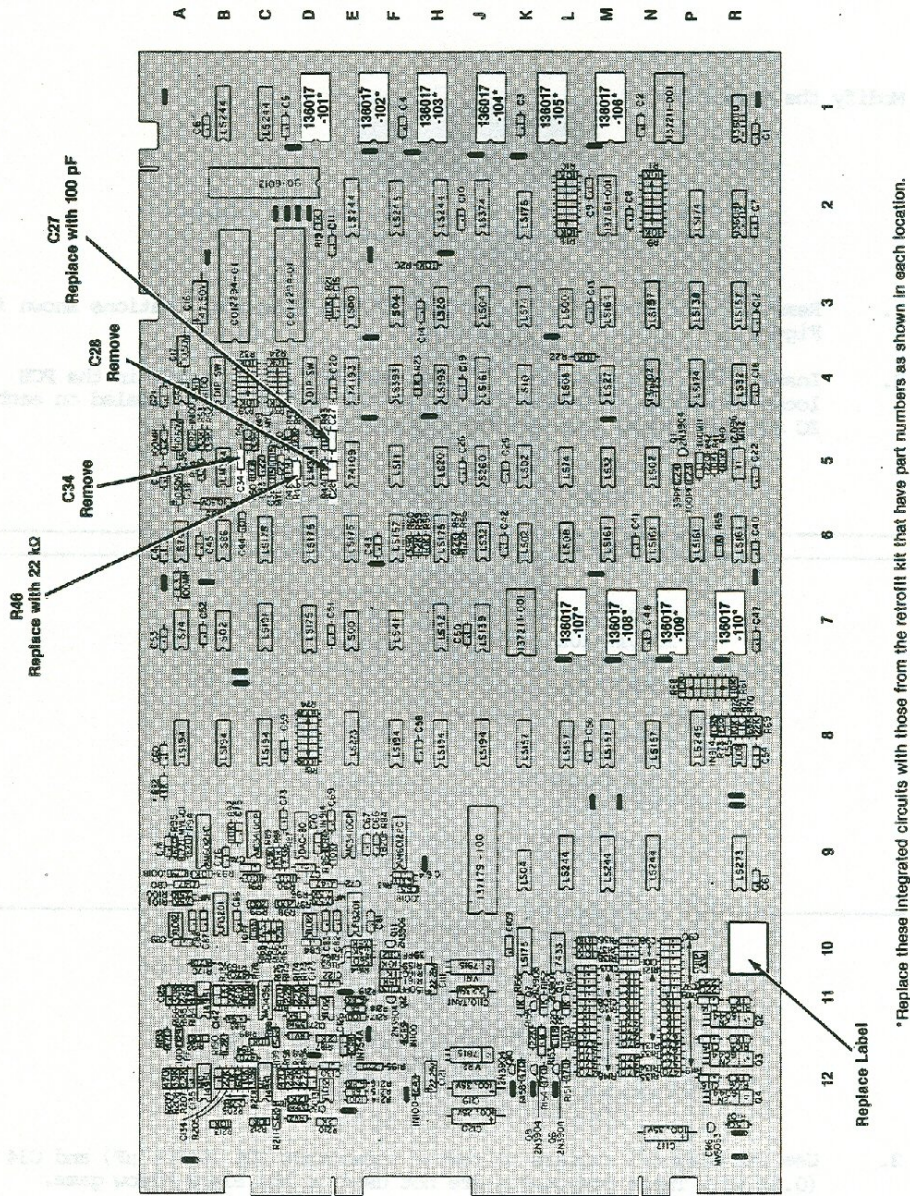

Figure 2 Location of PCB Components Affected by Retrofit
1. Remove the 10 integrated circuits (EPROMS) from the locations shown in Figure 2.
2. Install the 10 integrated circuits from the retrofit kit in the PCB locations shown in Table 3. Refer to the part numbers labeled on each IC and use Figure 2 to determine their locations.
Refer to Figure 2 for the locations of the components removed and replaced in steps 3 through 5.